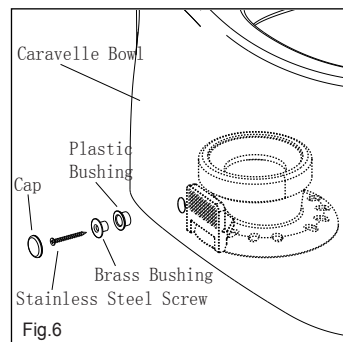
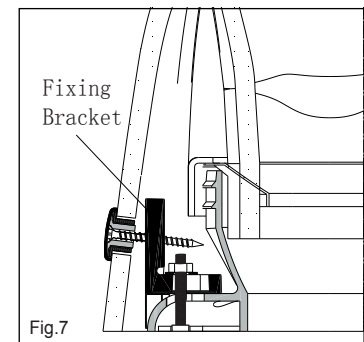

Fig.6
Fig.7
8. Insert the plastic bushing and brass bushing into the Bowl fixing hole as shown in Fig.6. Secure the bushings through the holes in fixing bracket with stainless steel screws as shown in Fig. 7. Cover the holes with caps.